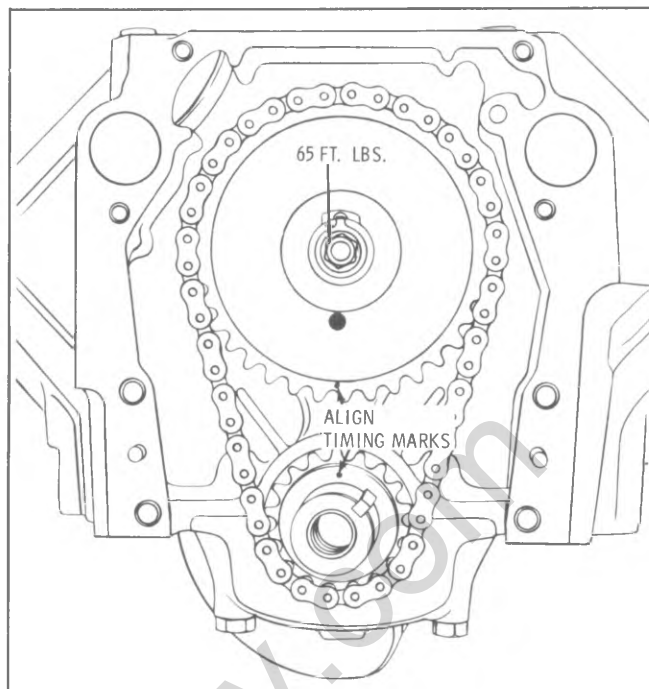

Fig. 6A3-81--Aligning Timing Marks
3. Install camshaft gear, crankshaft gear and timing chain together, and align timing marks. (Fig. 6A3-81).